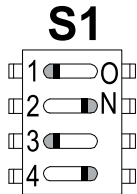

Figure 10.1 DIP Switch S1 Settings for the Self RAM Check
1. Set DIP switch S1 as shown in Figure 10.1.